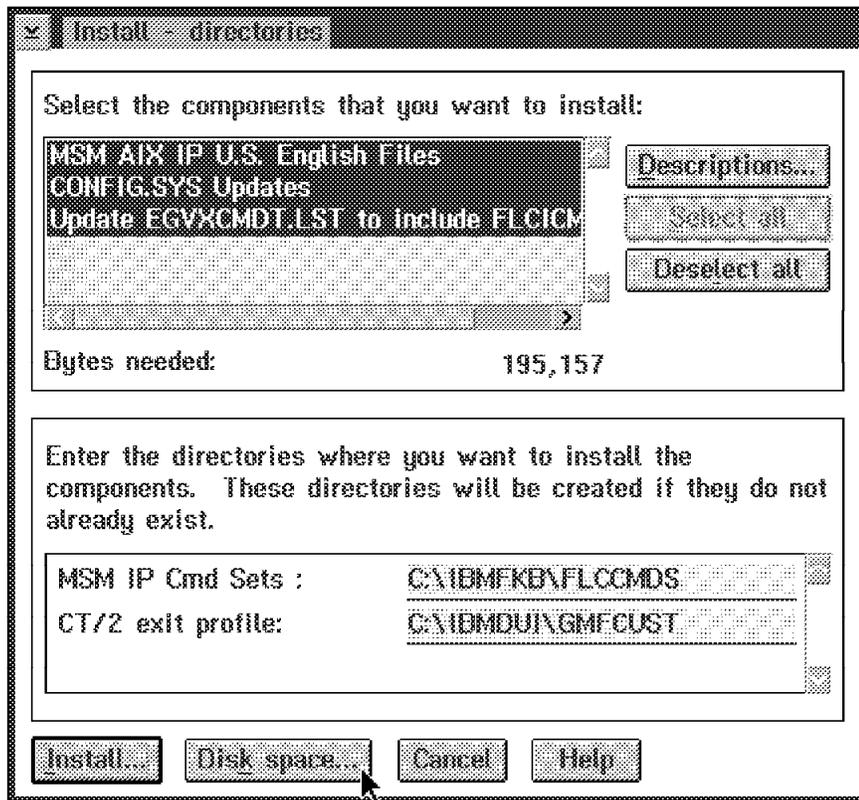

Figure 121. Install - Directories Window
- Select **Update CONFIG.SYS** and **Overwrite files** and then click on the **OK** push button. Software Installer for OS/2 should now present a window like the one shown in Figure 121 on page 127.
- Select your drive, click **Change directories to selected drive** and select **OK**. You will return to the window shown in Figure 121 on page 127.